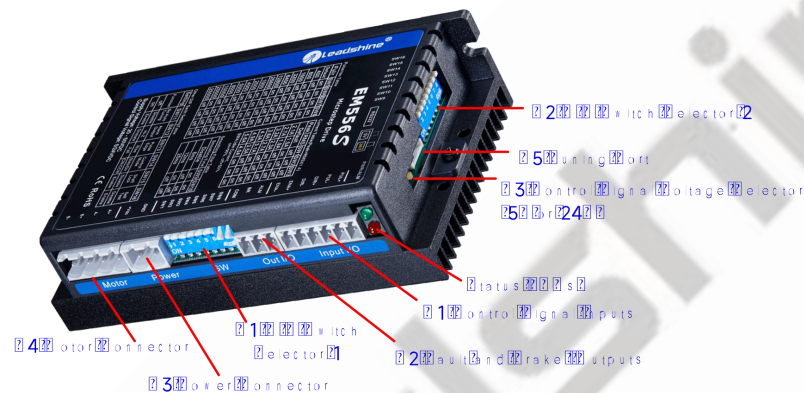

Figure 2 Connectors, DIP switches, and LED locations
DIR- (CCW-)	(6) The activated edge of PUL and DIR is set by DIP Switch SW13 (7) The factory setting of control signal voltage is 24V, must need to set S3 (figure 2) if it is 5V
ENA-	(3) ENA signal requires advance DIR signal minimum 5μs in single pulse mode (4) The default control signal voltage is 24V, to set S3 (figure 2) if it is 5V (5) Enable time to be at least 200ms
The DM556 can accept differential or single-ended control signals (pulse, direction, and enable) in open-collector or PNP connection through the P1 connector (figure 2). It is recommend to add an EMI line filter between the power supply and the drive to increase noise immunity for the drive in interference environments.
The first 8-bit is located on the side (DIP switch selector 1 in Figure 2) and used to configure settings of micro step resolution, output current, and motor standstill current as shown below, the factory setting of SW1-SW8 is **OFF, OFF, OFF, OFF, OFF, OFF, ON, ON**.
The second 8-bit DIP switch is located on the top (DIP switch selector 2 in figure 2), and used to configure settings of control command filtering time, motor auto-configuration, fault output impedance, pulse active edge, control mode, lock shaft, and self-test as shown below, the factory setting of SW1-SW8 is **OFF, OFF, OFF, ON, ON, OFF, OFF, OFF**.
The Third 1-bit selector is located on the top (DIP switch selector 3 in figure 2), used to configure the voltage of control signals. For the safety of optically coupled, the factory setting is 24V, which no need to connect 2K resistors like the old drives, making it easier to use. When the voltage of the control signal is 5V, the S3 must be set to 5V, otherwise, the motor won't work.